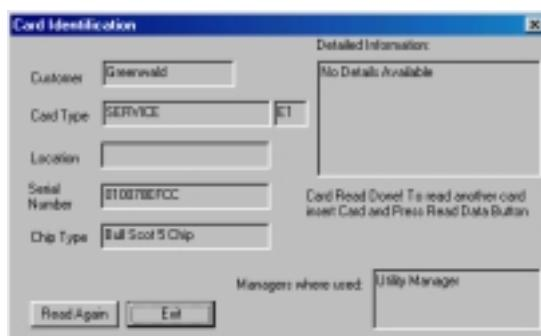

Figure 2.27 Card Identification Window
3. A window containing the card information will appear (Figure 2.27).
4. Click the Exit button when finished, or insert a different card into the PC Reader and click the Read Again button (Figure 2.27).